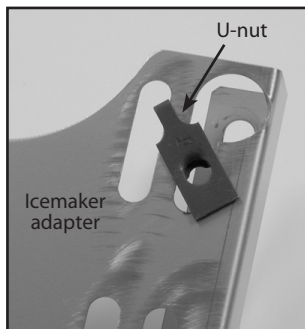
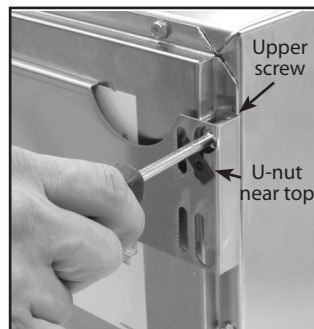

Fig. 03
Fig. 04
3. Install 2 Tinnerman U-Nuts on Icemaker Adapter (Fig. 03) and attach to upper area of Icemaker as shown (Fig. 04). Repeat for the bottom location (Fig. 05). Tighten all screws at this point. See Fig. 06 for final placement.
3. Install 2 Tinnerman U-Nuts on Icemaker Adapter (Fig. 03) and attach to upper area of Icemaker as shown (Fig. 04 and 05). Repeat for the bottom location. Tighten all screws at this point.